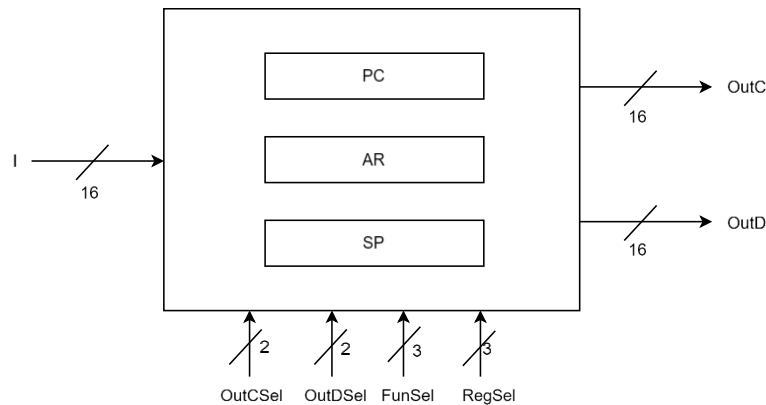

Figure 4: 16-bit address registers, inputs, and outputs.
(Part-2c) Design the address register file (ARF) system shown in Figure 4 which consists of three 16-bit address registers: program counter (PC), address register (AR), and stack pointer (SP). FunSel and RegSel work as in Part-2b.